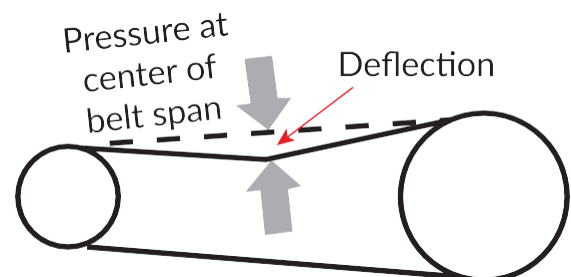

Figure 6
4. Re-tension the belts with the sliding motor base according to the chart (figure 6, see page 9). Note that new belts require greater initial tension than belts that have been in operation. Double check the belt tension while tightening the motor base and assure the motor stays in alignment while re-tightening (see figure 5, page 9).